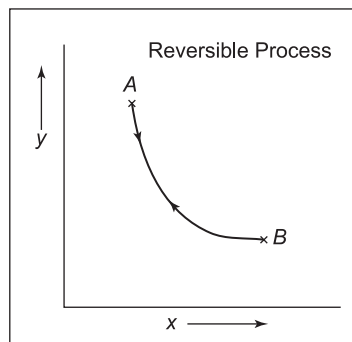

Figure 1.10 A reversible process
3. **Reversible process:** A reversible process is a process in which the path can be traversed in either direction without any change to the system or surroundings (Figure 1.10).